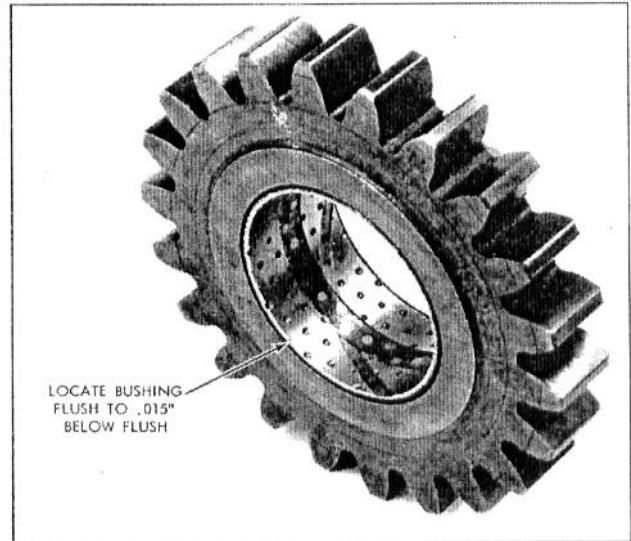

Fig. 8 - Bushing Properly Installed in Pinion
- Carefully press new bushing into large tooth side of pinion. Locate bushing flush to .015" below machined surface of pinion. See Fig. 8.